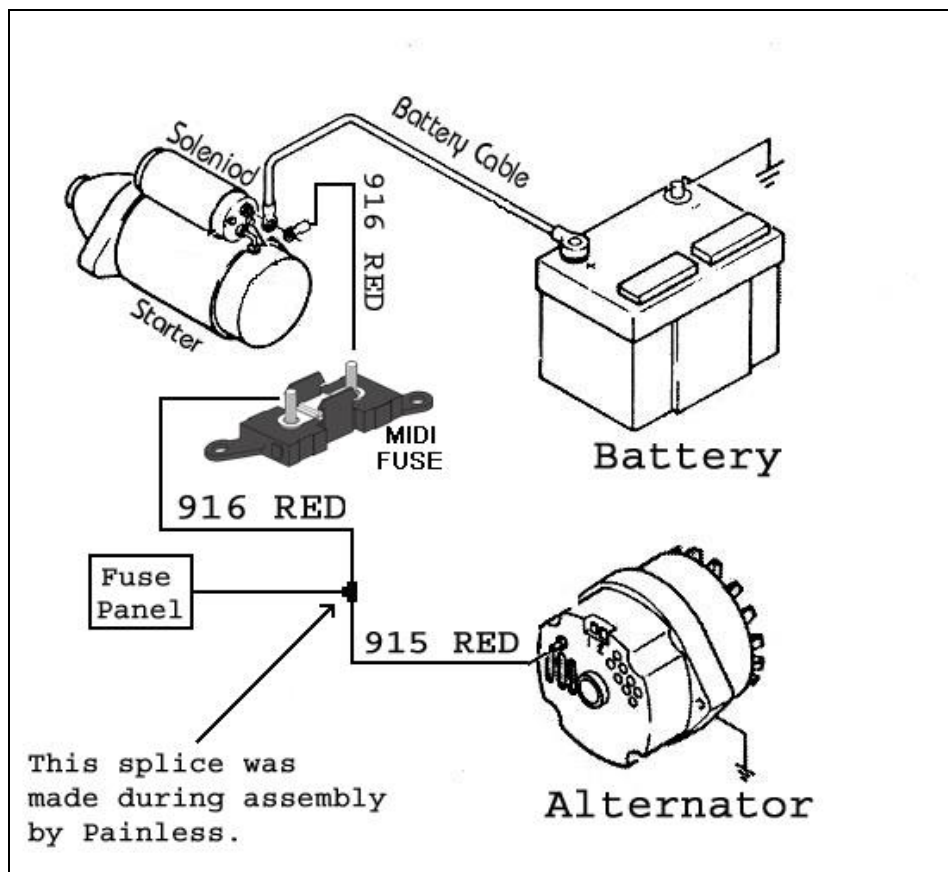

Figure 7.3 GM One-wire Alternator
7.3 GM ONE-WIRE ALTERNATOR (SEE FIGURE 7.3)